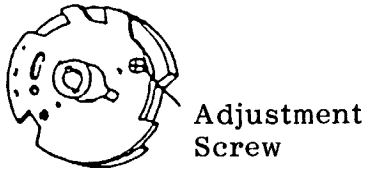
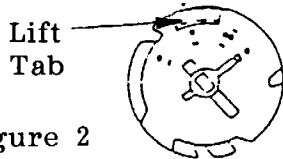

Figure 1
Figure 2
- A. There are five (5) adjustable positions on the narrow column cams. See figure 1 for Pre-Series 90 and figure 2 for Series 90 cam.